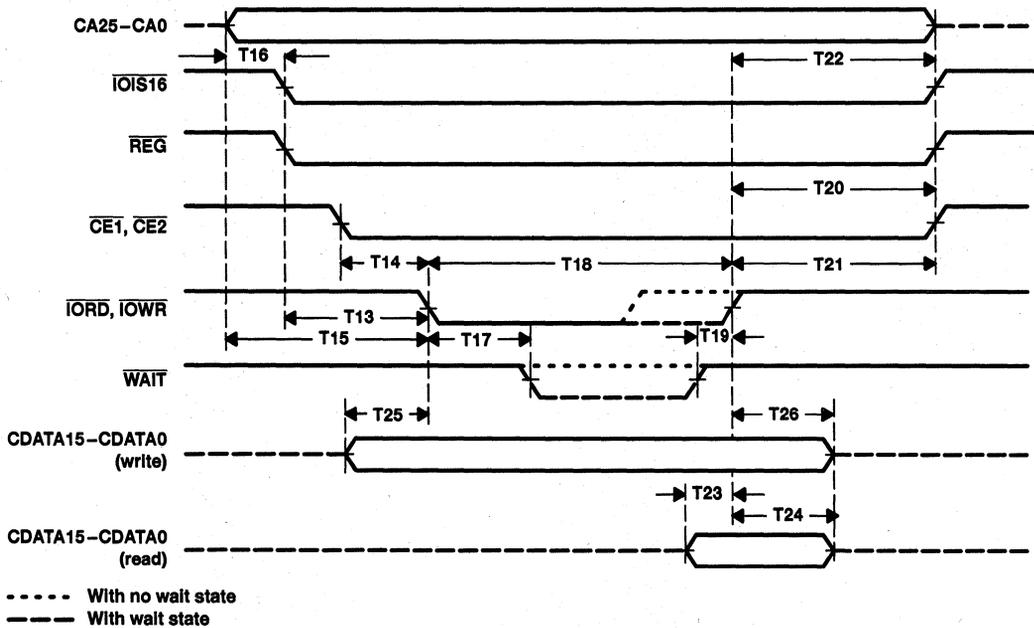

Figure 9. PC Card I/O Cycle
**timing requirements over recommended ranges of supply voltage and operating free-air temperature, I/O cycles (see Figure 9)**